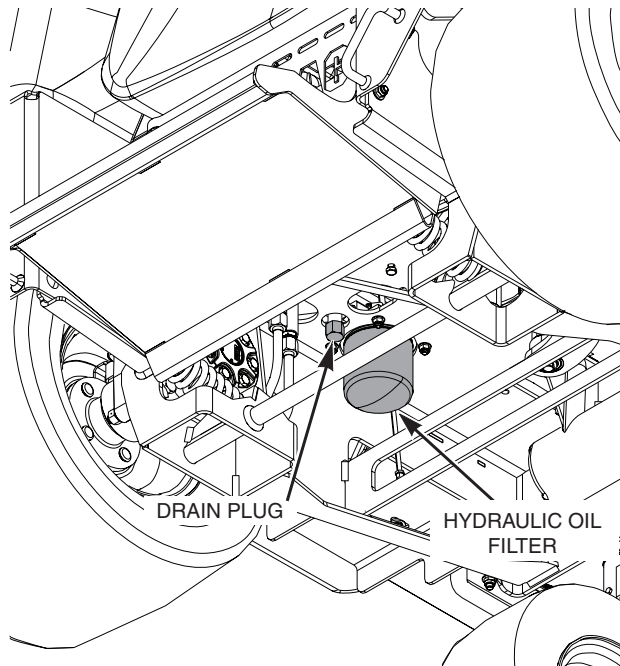

Figure 6-3. Hydraulic Oil Filter
2. Place a suitable container under the hydraulic oil filter. Remove the fill cap from the reservoir. Remove the drain plug. See Figure 6-3. Allow the fluid to drain into the container and properly discard it.
1. Remove the oil filter element. See Figure 6-3. Properly discard the oil filter element. Fill the new filter with clean oil and install the filter. Hand tighten only.